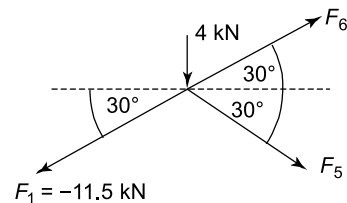

Figure 7.37
Consider joint (3); see Figure 7.37.